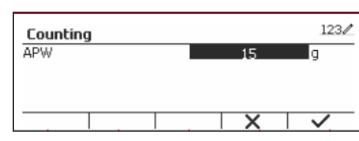

Figure 44
- Press the softkey corresponding to the  icon to edit the APW value using the alphanumeric keypad. (See Figure 44)